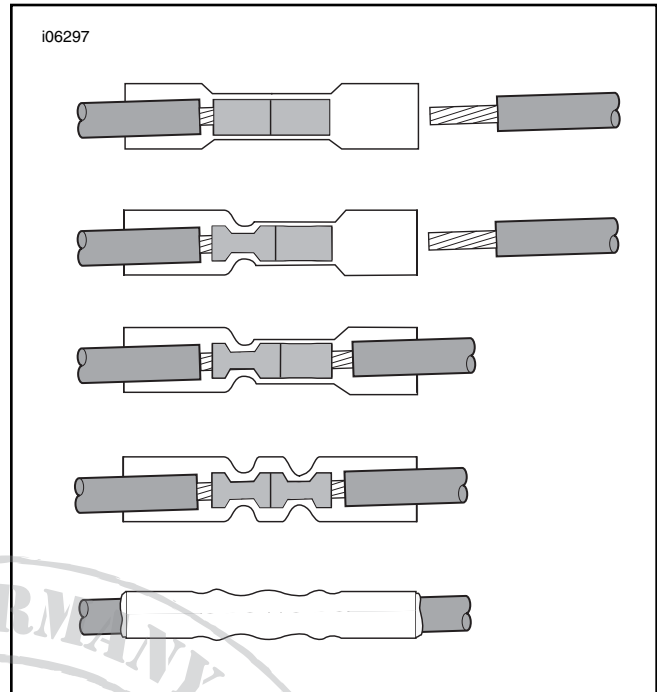

Figure 5. Sealed Connector Splice
3. See Figure 5. In sequence, crimp the black (BK) wires into ends of one connector and the violet and brown (V/BN) wires into another.